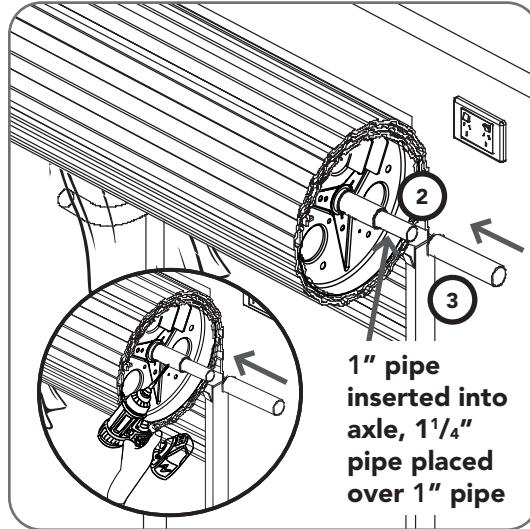

Fig. 3.2
- Insert the 1" extension pipe (2) into the end of the axle and push in half way into the axle in **Fig 3.2**.
- Drill a 3/16" pilot hole on an angle into the axle and through the extension pipe. (**Fig 3.2**)
- Insert the 1¹/₄" pipe (3) over the 1" extension pipe. (If extension pipe is too long, cut pipe to fit sideroom before fitting)